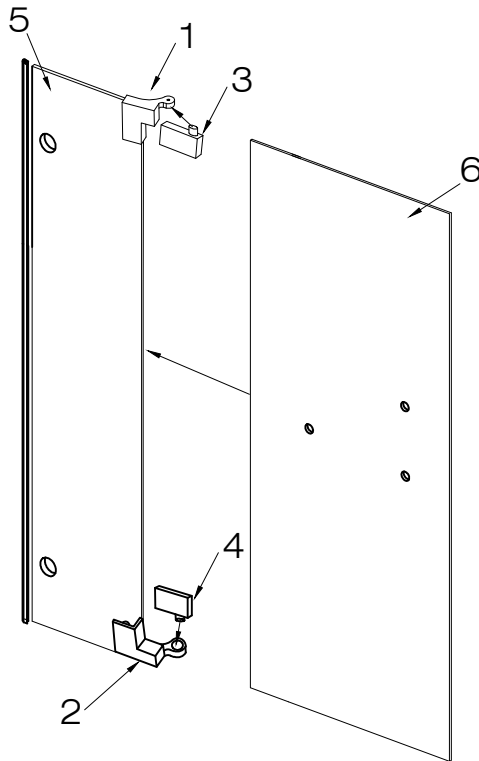

FIG.5
1. Insert the convex portion of the turning hinge mirrored (#4) into the concave point of the turning hinge base mirrored (#2) [SEE FIG. 5].